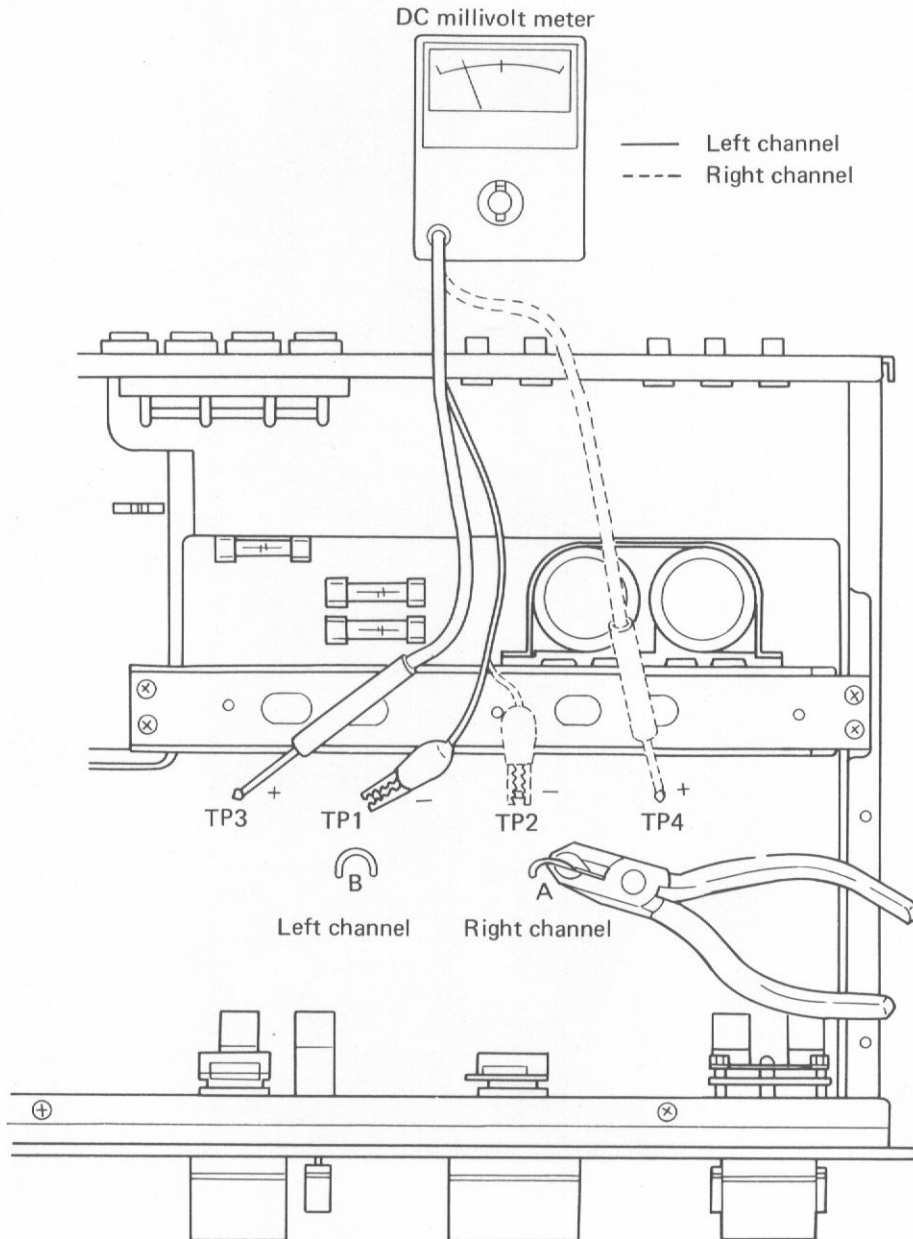

Fig. 7 Connection Diagram of Idle Current Adjustment
2. Connect as shown in Fig. 7.